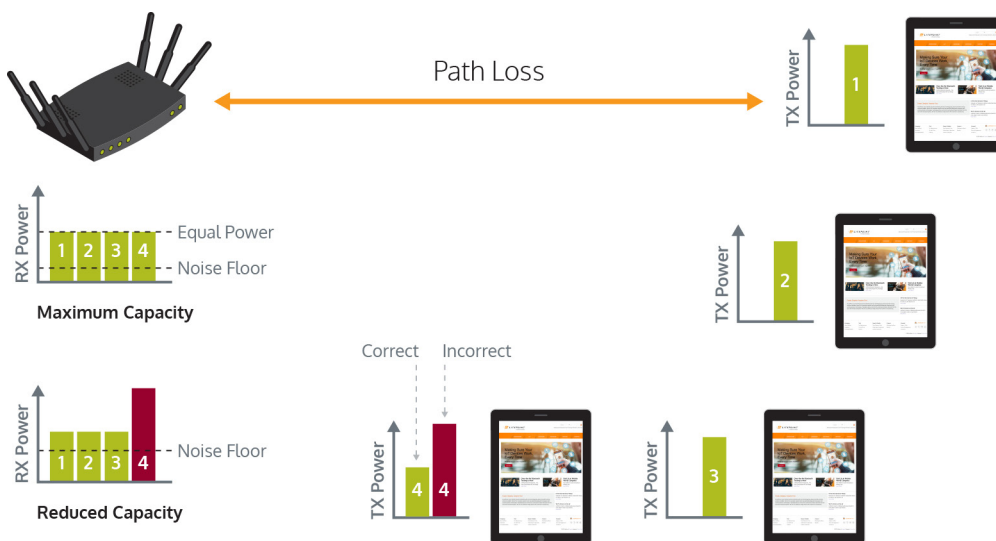

Figure 2. With multiple users sharing the same spectrum gives rise to a need for power control.
As a result, power control is needed to ensure that a user very close to the access point (AP) does not drown out another user farther from the AP. Widely different power levels between users at the AP will result in increased inter-carrier interference (ICI), receiver compression, leakage, and carrier frequency offset (CFO) due to timing misalignments between Wi-Fi user/station (STA) devices. In 802.11ax, the AP commands the STAs to adjust their power up or down based on the target received signal strength indicator (RSSI) at the AP side. The STA first estimates path loss by subtracting measured RSSI (at STA) from AP transmit power (encoded inside the packet). The STA then transmits a signal with power equal to the target RSSI plus estimated path loss. Devices closer to the AP transmit less power while devices farther away transmit more power to overcome the greater path loss. **Figure 2** illustrates the process.